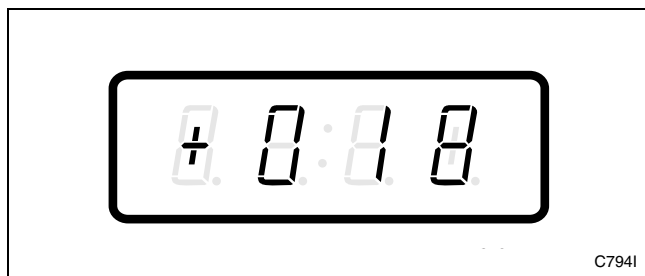

Figure 75
3. Press the DELICATES (+) or the COLD (-) keypad to scroll through the programmable options until “+018” appears in the VFD. Refer to *Figure 75*.